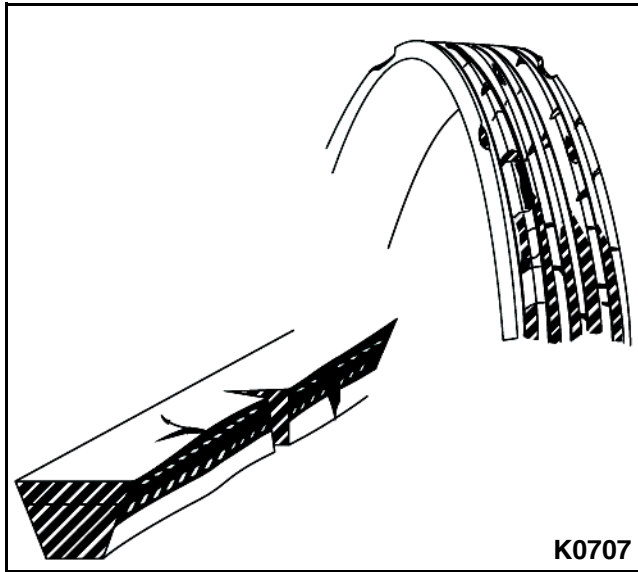

Figure 5-25
3. Inspect the drive belt. Look for signs of cracking, separation, cuts, or other damage. **See Figure 5-25.**